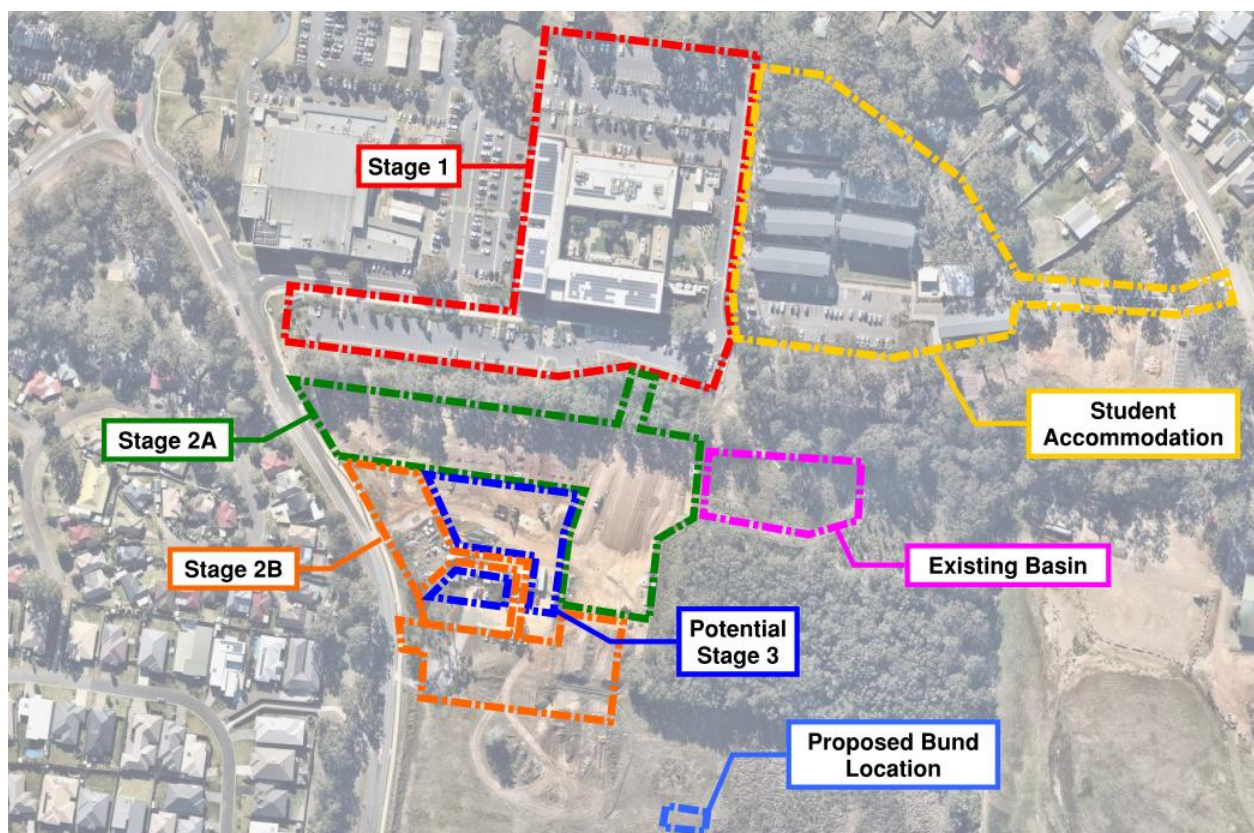

Figure 1.1: Works Area Location
The works area is located within the Port Macquarie Hastings Council local government area as shown in Figure 1.1 in context of the wider CSU Port Macquarie Campus. The works area is located to the south of the Stage 2A works that are currently being constructed. The works area covers an area of approximately 7,000 m² and is currently largely greenfield. The works area falls from a reduced level (RL) of 9.20 at the north-west to 4.80 at the south-east of the site.